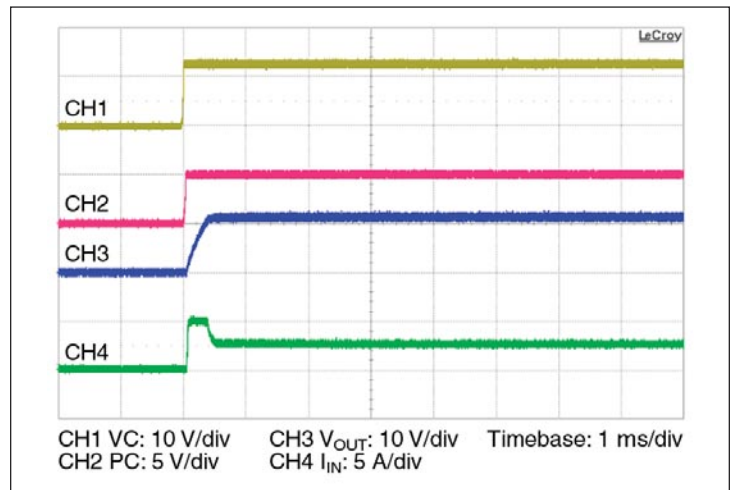

Figure 14 — Start up from application of VC; V_{IN} pre-applied $C_{OUT} = 500\ \mu\text{F}$
- **Stand Alone Operation (VC applied after V_{IN}):** In this case the module output will begin to rise upon the application of the VC voltage (See Figure 14). The Adaptive Soft Start circuit (See Section 10) may vary the output rate of rise in order to limit the inrush current to its maximum level. When starting into high capacitance, or a short, the output current will be limited for a maximum of 900 µsec. After this period, the adaptive soft start circuit will time out and the module may shut down. No restart will be attempted until VC is re-applied, or PC is toggled. The maximum output capacitance is limited to 500 µF in this mode of operation to ensure a successful start.